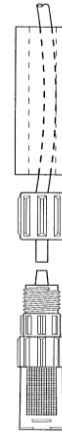

Figure 5: Ceramic-Weighted Strainer
5. Referring to Figure 5, slide ceramic strainer weight on suction tubing first, then remove the coupling nut from the strainer and slide onto tubing. Next, push the end of the tubing onto the strainer and hand tighten the coupling nut. Hand-tighten only, do not use wrenches. **Note: Immerse tubing in hot water to soften prior to pushing on fitting.**